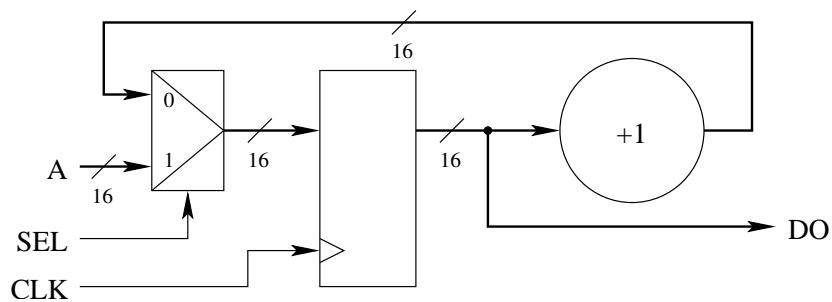

Figure 3: The *INCR* digital circuit
1.3. Same question as above about *INCR*, the circuit represented on figure 3.